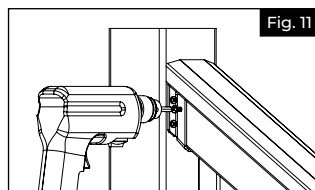

Fig. 11
- Screw in top rail metal brackets to underside of each end of rail, with #10 x 1" square drive screw in middle slot of bracket (Fig. 11).
- b. Pre-drill both sides of the top rail bracket with $\frac{5}{32}$ " drill bit. Hole should be oriented as shown (Fig. 11). Drive #10 x 1" pan head square drive screw through bracket and rail.